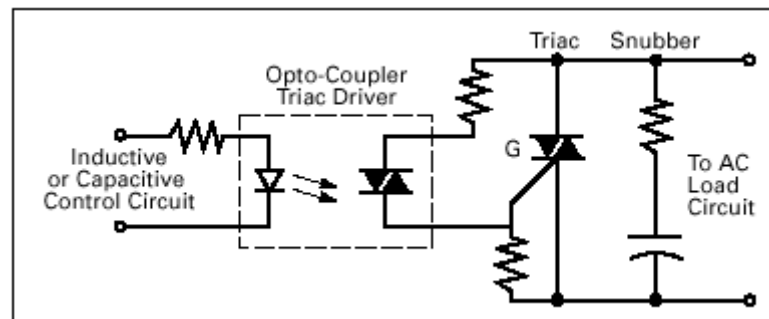

Fig. 5.17 Triac output circuit
2. A Triac Output: A triac is a solid-state device designed to control AC current. A triac switch turn on in less than microsecond when its gate (control gate) is energized. As long as triac is used within its rated maximum current and voltage, triac has infinite life. Triac devices used with sensors are generally rated at 2A loads or less, and can be used directly interfaced to PLCs. Furthermore, it can be used directly to drive an inductive load using snubber circuit, as shown in Fig. 5.17. The short circuit in triac will destroy the triac, so the device should be short circuit protected to avoid this.